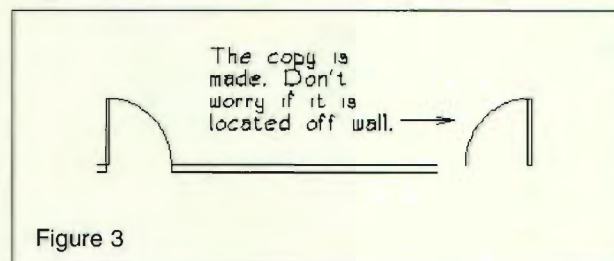

Figure 3
4. Pick any point on the door. A copy will be mirrored, creating the opposite swing, as in Figure 3.